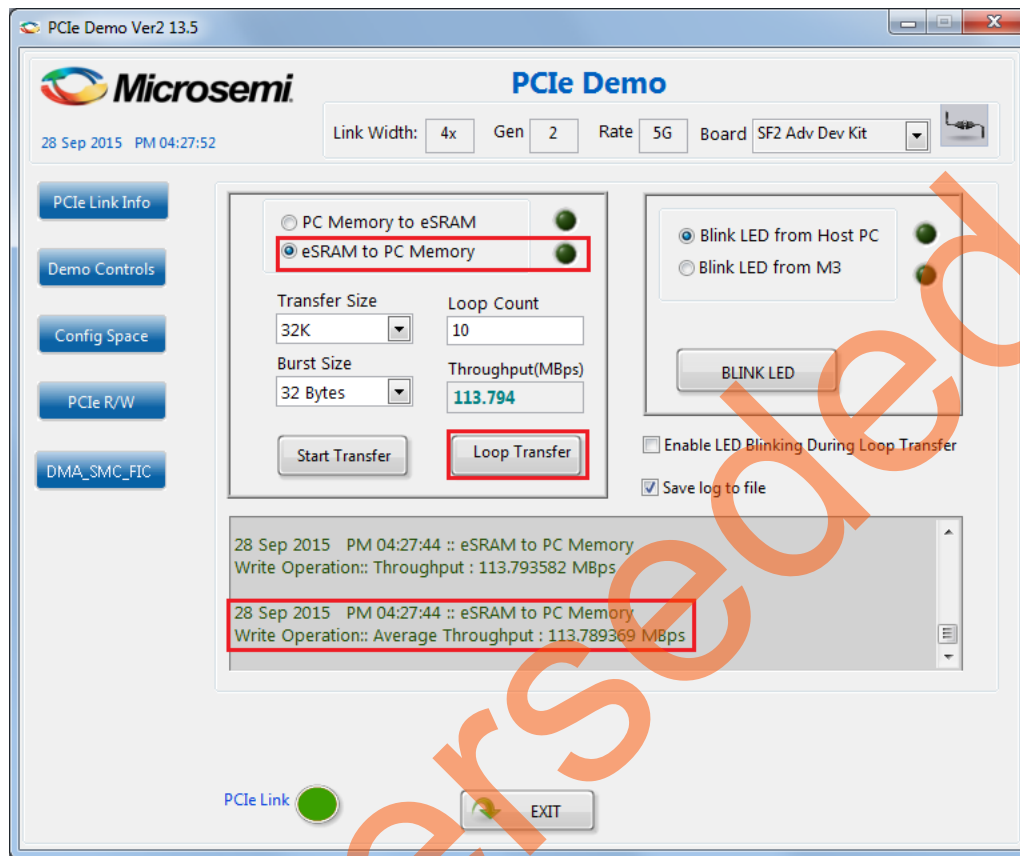

Figure 29 • Throughput in the DMA Transactions from eSRAM to the Host PC
21. Enter **10** in the **Loop Count** field and click **Loop Transfer** to perform 10 repeated DMA transactions. After completion of data transfer, the throughput is displayed. Figure 29 shows the throughput in the DMA transactions from eSRAM to the Host PC.